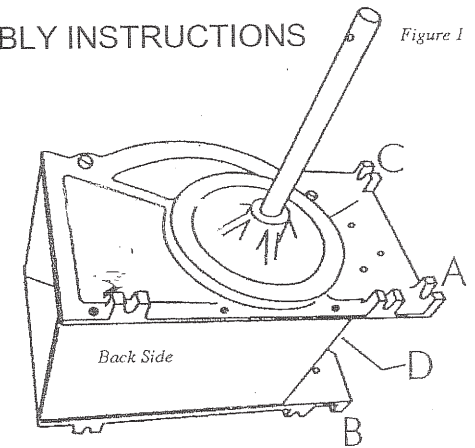

Figure 1
- Turn so the sink holes of the Mounting Board are facing toward you, align the holes, A, B, C, D of the Mounting Board with the holes of the Fruit Crusher **A, B, C, D** (the corresponding). Figures 1 & 2